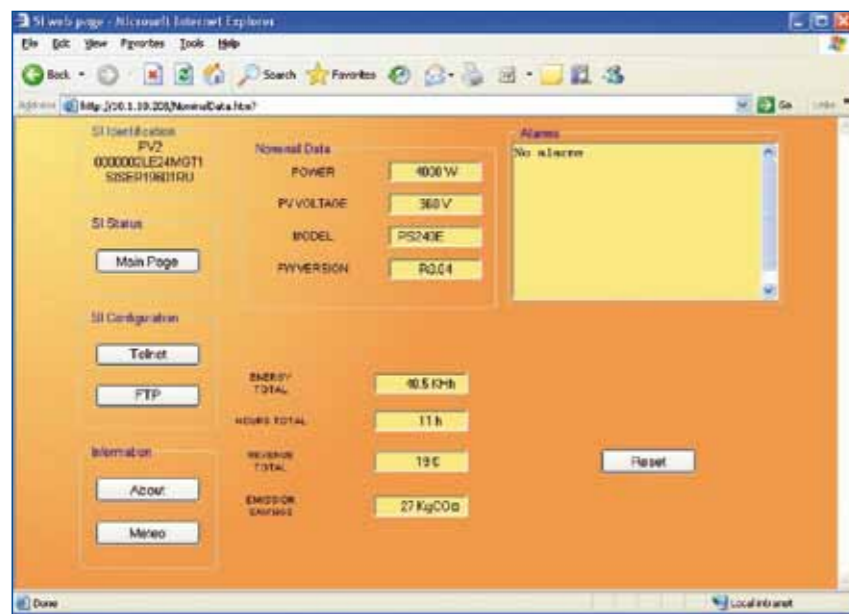

Figure 13:
- Nominal Data: opens a page that displays the nominal values of the inverter, the list of active alarms and the counters (see Figure 13);